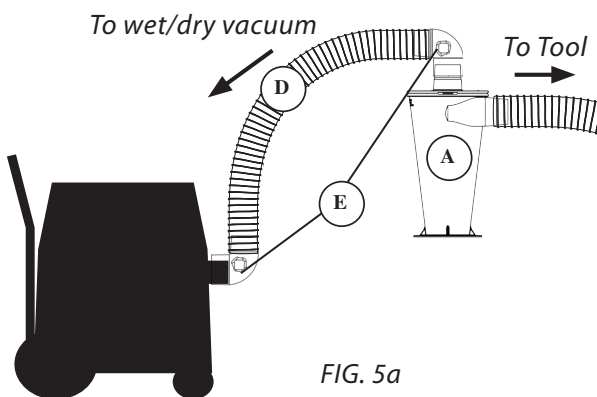

FIG. 5a
Connect the Cyclone's (A) inlet (sideways facing port) to your dust producing tool with your vacuum's hose or ductwork [FIG. 5a].